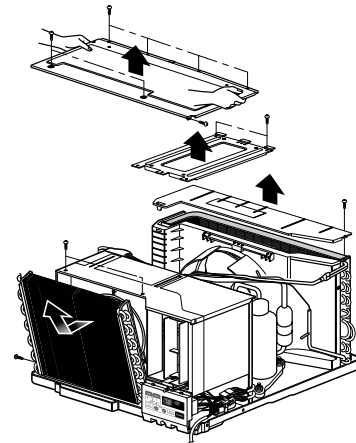

Figure 19
4. Remove the covers and the brace. (See Fig. 19)
2. Remove the 3 screws which fasten the evaporator at the left side and the top side.(See Fig. 19)